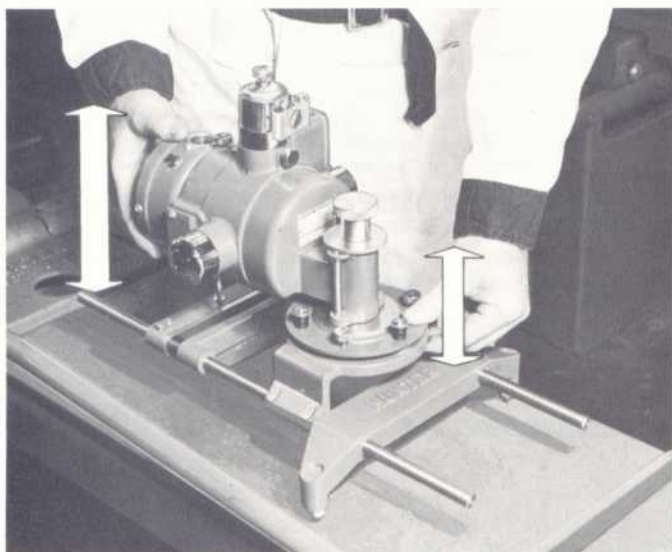

FIGURE 14
5. **TO CHECK COMPENSATOR BEARINGS:** Slide **center casting** of projector down to contact **bottom casting** and relocate the projector on the floor or rack. Check firmness of the positioning. Check compensator **bearings** for end play and for side play in bearings by gently moving end of projector head up and down and feeling for looseness. (See Figure 14) No play should be noticed.